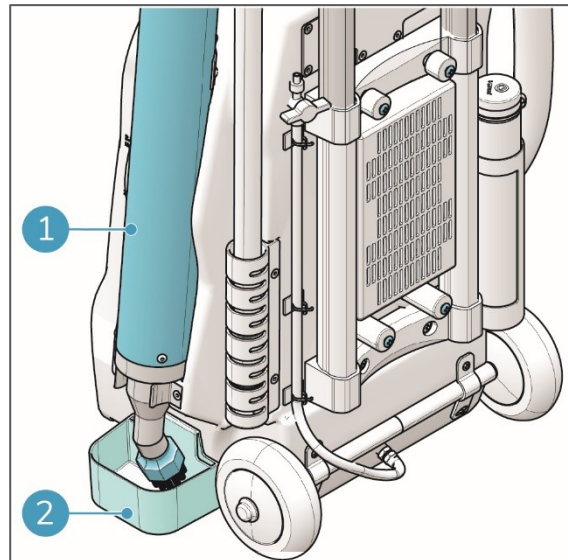

Figure 5
The functional part of the i-gum[®] consists of a steam lance and brush. The steam lance is insulated, however the grey part (fig 5, pos 1) should not be touched. The temperature stays well below 60°C.
It is recommended to keep the steam lance (fig 5, pos 1) stored in its holder when moving to the job site. To avoid heated solution to spill the drip tray (fig 5, pos 2) must be attached.